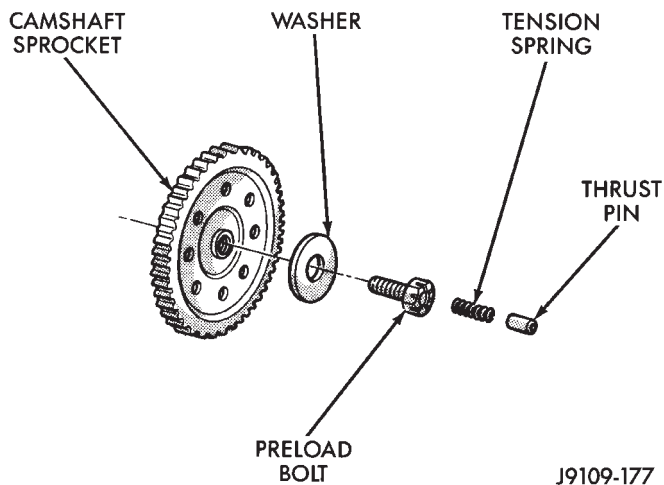

Fig. 7 Camshaft Sprocket Preload Bolt
(7) Remove the oil slinger from the crankshaft.
(8) Remove the tension spring and thrust pin from the preload bolt (Fig. 7). Remove the camshaft sprocket retaining preload bolt and washer.
(9) Remove the crankshaft sprocket, camshaft sprocket and timing chain as an assembly.
(1) With the key in the keyway on the crankshaft, install the assembly on the crankshaft and camshaft.
(2) Install the camshaft sprocket retaining preload bolt and washer (Fig. 7). Tighten the preload bolt to 108 N•m (80 ft. lbs.) torque.